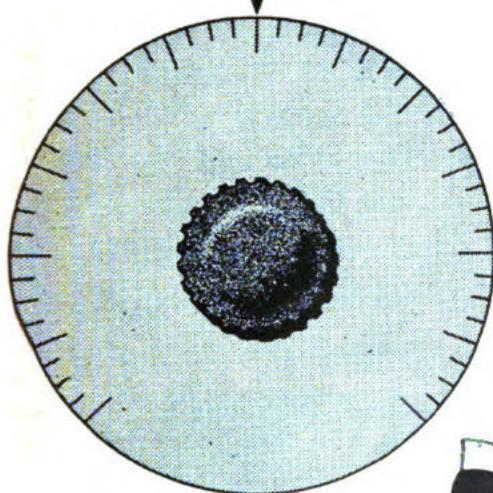

Figure 109.
5. The radio dial in figure 109 has an outside diameter of six inches. The inner knob has a diameter of two inches. What's the M. A.?